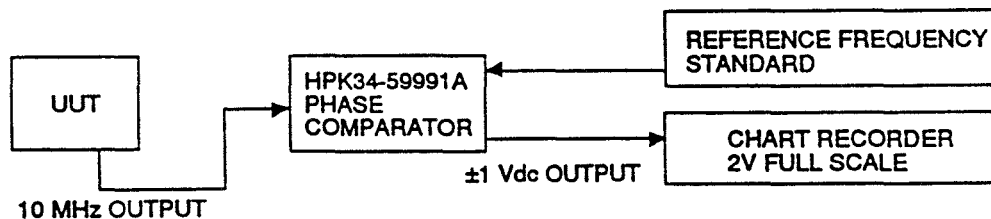

Figure 4-2. Frequency Offset Test & Long-term Stability Test Configuration
- (1) Connect the Unit (UUT) and the test equipment as illustrated in Figure 4-2. (As an alternative, the HP5371A may be used to measure frequency offset. Contact a HP field engineer for details.)
- (2) Adjust chart recorder pen position to center scale for 0 volts input.
- (1) Connect the UUT as shown in Figure 4-2.
- (2) Apply dc input power to the UUT.
- (3) Allow at least 1 hour for the UUT to stabilize. Measure and record the output frequency offset per Section 4.3.2, Step 4.
- (4) Disconnect input power to the UUT for  $24 \pm 2$  hours.
- (5) Apply dc input power to the UUT.
- (6) After one hour of operation, measure and record the output frequency offset per Section 4.3.2, Step 4.
- (7) Determine the absolute value of the difference between the offsets marked in Step 3 and Step 6. The difference must be  $\pm 2E-11$ .
- (1) Connect the equipment as shown in Figure 4-2.
- (2) Per Section 4.3.2, Step 4, compute and record the fractional frequency offset every 24 hours over a period of 15 days.